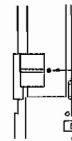

Figure 11-6
- Turn the tuning control shaft fully counter-clockwise and fix its pointer as shown in Fig. 11-6.